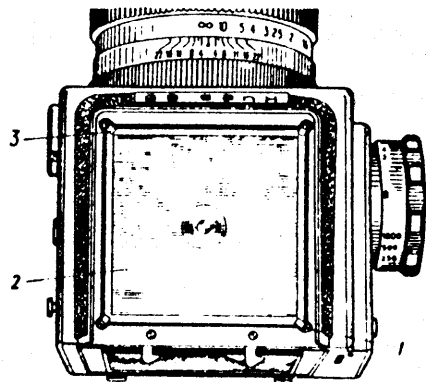

Fig. 3. Camera KIEV 88 (first view):
4.5. **Viewfinder.** Unscrew four screws 1 (Fig. 3) out of the camera housing, remove four straps 3 and extract viewfinder 2.
8.11. Clean the optical elements of viewfinder 2 (Fig. 3) from two external sides. Install the viewfinder into the camera frame with the Fresnel lens down onto the adjusting screws and secure it with four straps 3 with screws 1.
aperture by releasing the curtain. The image also must be sharp. Carry out adjustment by shifting the screws located under viewfinder 2 (Fig. 3).